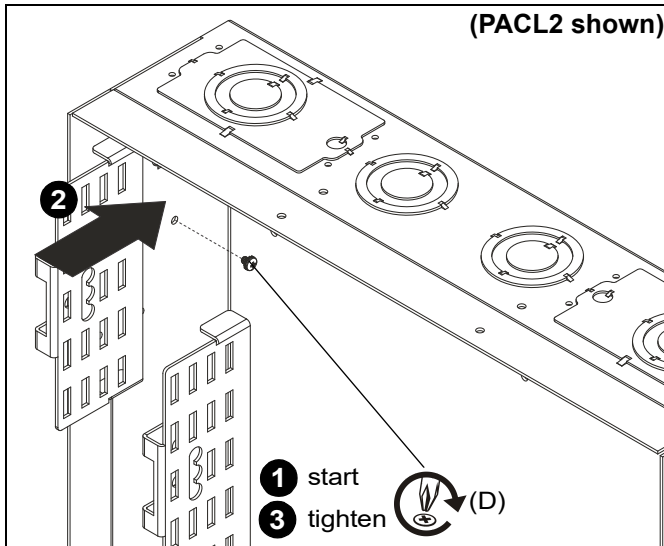

Figure 1
1. Partially install #10-24 x 1/4" Phillips screws with external tooth washers (D) into holes on sides of PAC box. (See Figure 1)
2. Slide each adapter (B) inside PAC box. (See Figure 1)
3. Tighten #10-24 x 1/4" Phillips screws with external tooth washers (D) to secure adapter (B) to PAC box. (See Figure 1)